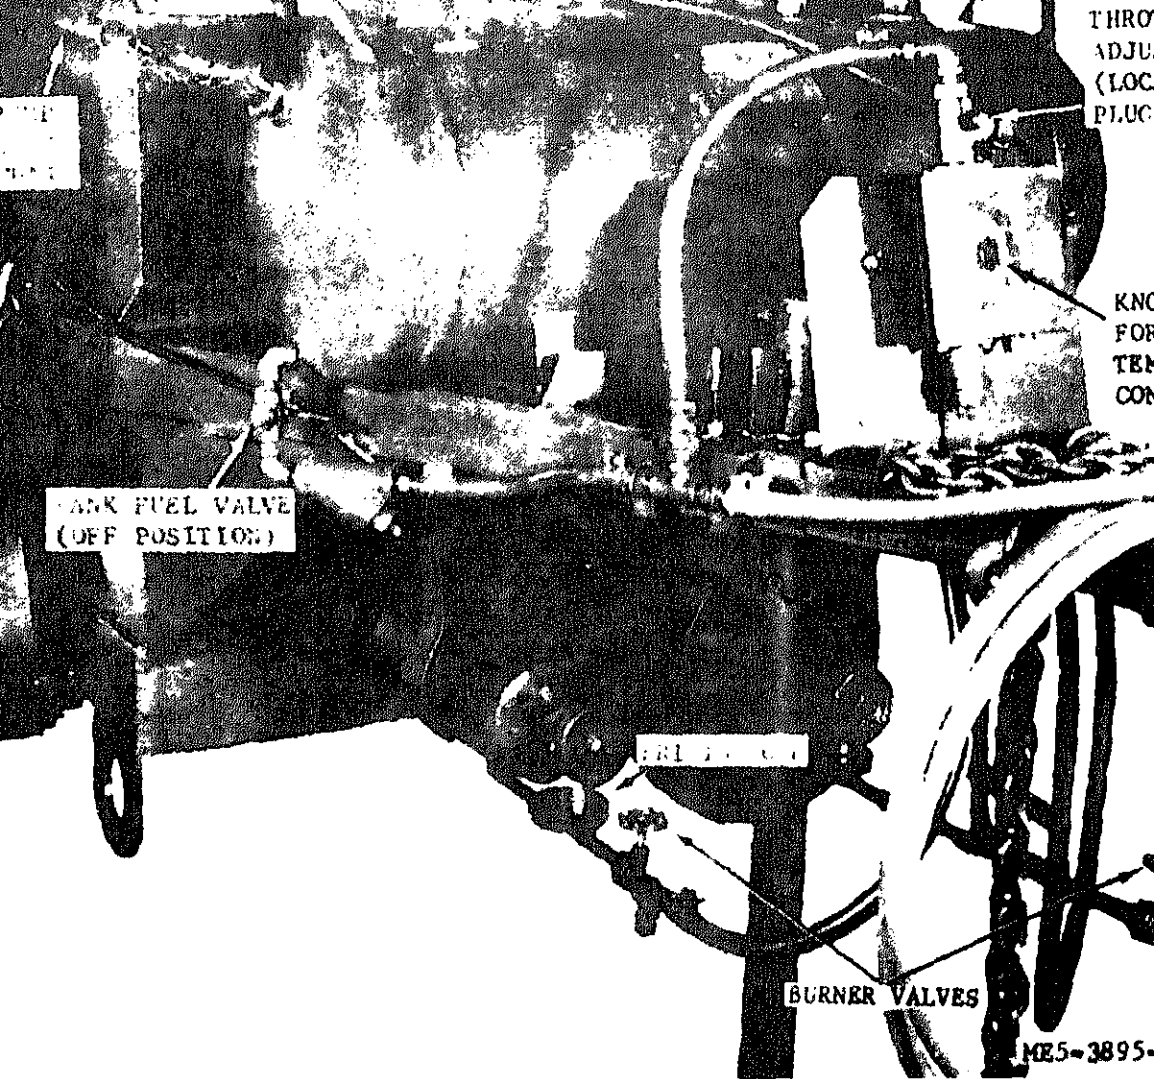

Figure 2-4. Burner system startup.
(1) Open stack cover (fig. 1-1). Fill burner fuel tank three-fourths full with clean kerosene or diesel kerosene preferred (fig. 2-4).
(2) Pressurize burner fuel tank with built-in pump, to approximately 25 p.s.i., then open the valve located at bottom of fuel tank (fig. 2-4).
(3) Open valve at burner, slightly, allow fuel to fill priming cup one-quarter full. Close valve and take hand torch and soak it with fuel. Now, light saturated torch and place it in priming cup to ignite fuel located there. Allow fuel to burn until flame is hot enough to vaporize fuel. Allow two or three minutes for vaporizing coil to heat. Priming cup must have to be refilled before coils are hot enough to vaporize fuel. When fuel is vaporized, reopen valve at burner one-eighth turn. If burner spits oil, close valve again and allow more time for gas to generate.
(4) Once burner stops spitting oil, reopen valve until burner gives smooth burning performance.